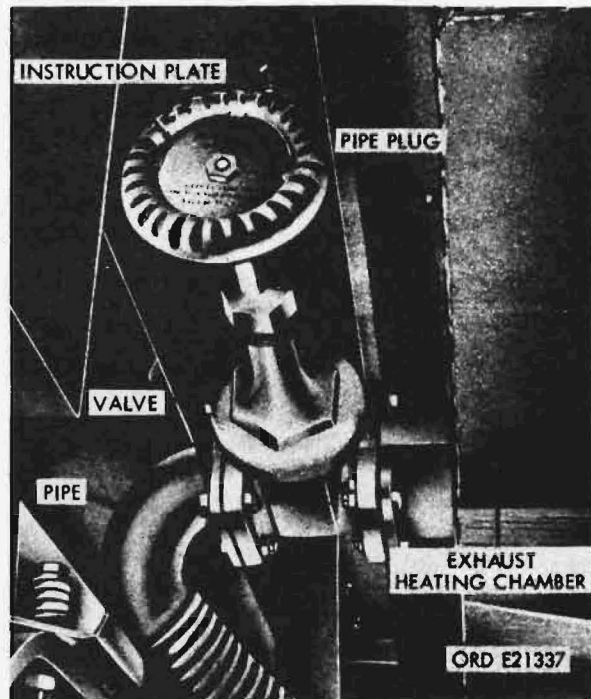

Figure 68. M50 and M50A1 exhaust bypass fording valve
- (1) **Exhaust bypass fording valve (fig. 68).** The exhaust bypass fording valve, located on the tank below the cab, is a